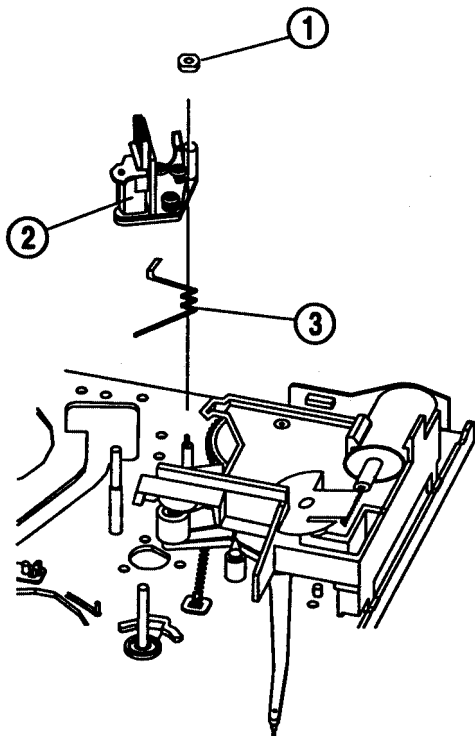

Fig. 21- A/C Head Assembly Removal
A/C Head Assembly Removal (Fig. 21)
1. Remove one (1) nut hex from the A/C head assembly (Fig. 21)